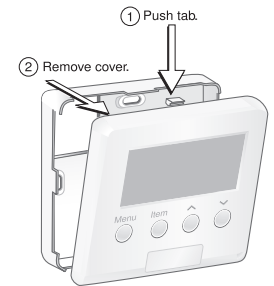

Figure 1:
2. Push the screwdriver against the plastic tab and pull the top of the front cover so that it pivots around the bottom edge of the base. (See **Figure 1.**)